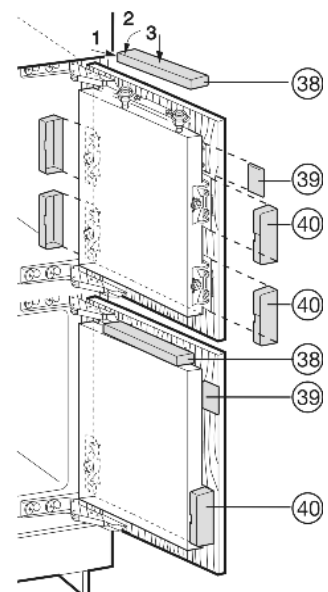

Fig. 26
- ▶ Put on and engage the upper covers Fig. 26 (38).
- ▶ Place lateral covers Fig. 26 (39) in position, slide them to the limit, then press, until you hear them snap into place.
- ▶ Attach covers Fig. 26 (40) sideways and then draw them forwards with a screwdriver so that they snap into place.